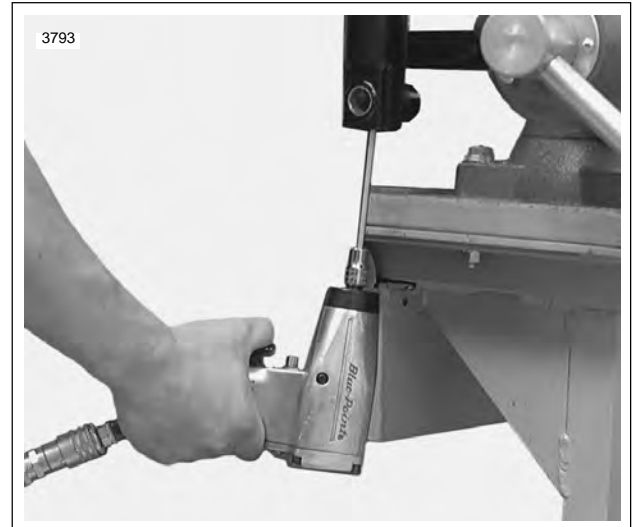

Figure 2-76. Install Center Bolt
8. See Figure 2-76. Install center bolt and washer.